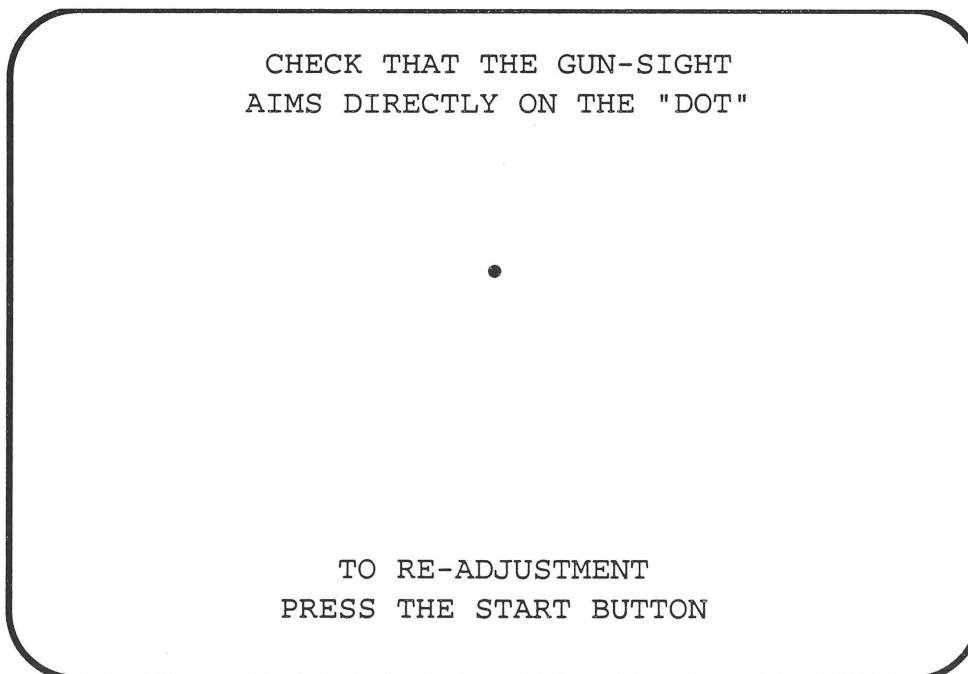

Figure 4-5 Gun Alignment Check Screen
8. With the gun sight aimed directly at the cursor, pull the trigger. The Gun Adjustment Check Screen will appear, as in Fig. 4-5. Proper gun operation is verified when the cursor appears at each location hit within the screen area.